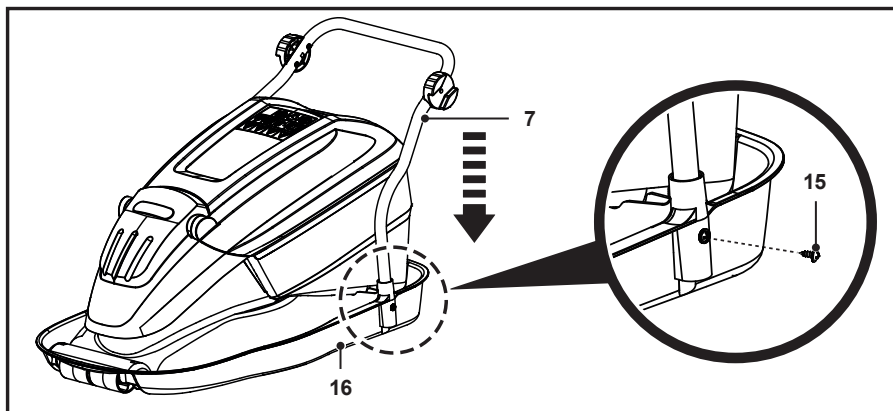

Fig. 1
1. Insert the ends of the lower handle (7) into the slots on the cutting deck (16) (Fig. 1).
2. Push the lower handle (7) down until the screw holes are aligned.
3. Secure the lower handle (7) in place with 2 screws (15).